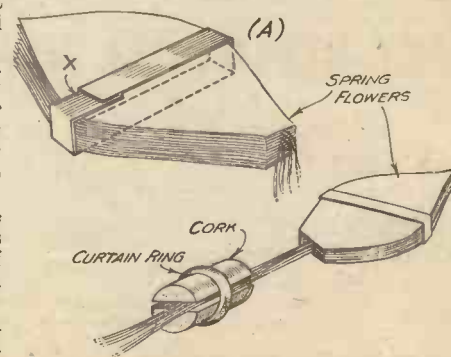

Fig. 12.—Clip and string fastening for bunch of spring flowers.
Fig. 12 shows a simple method of holding
twenty or thirty spring flowers in bouquet form. The flowers having been fitted with springs are placed in a clip made from a strip of fairly flexible metal bent to the shape illustrated in Fig. 12 (A). The part marked X is slipped under the opposite end of the clip and holds the bunch secure. To